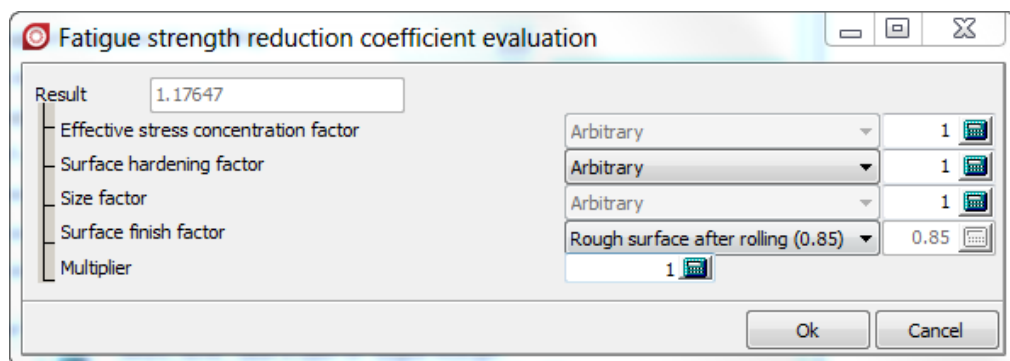

Figure 2.33. Total fatigue strength reduction factor evaluation form
13. Click **Evaluation** to define **Total fatigue strength reduction coefficient** value, see Figure 2.33. Stress concentration factor is equal to **1** as soon as we use local stresses for this area. Click **Ok** when finish.